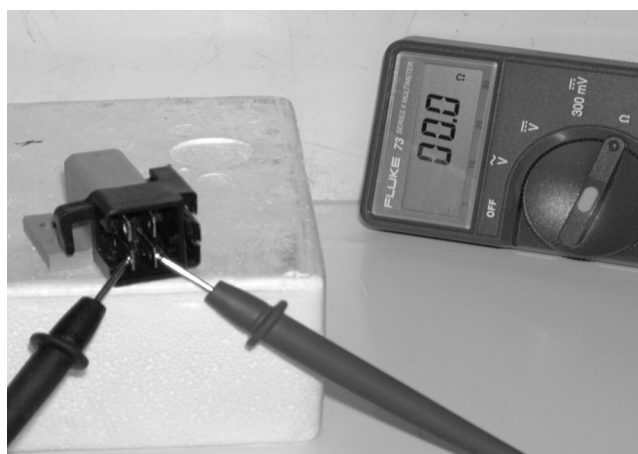

FIGURE 4.
–There will be **CONTINUITY**. See figure 4.